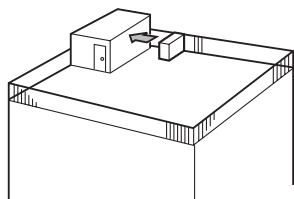

Fig. 2-3
- Face the air outlet towards the nearest available wall about 50 cm away from the wall. (Fig. 2-3)